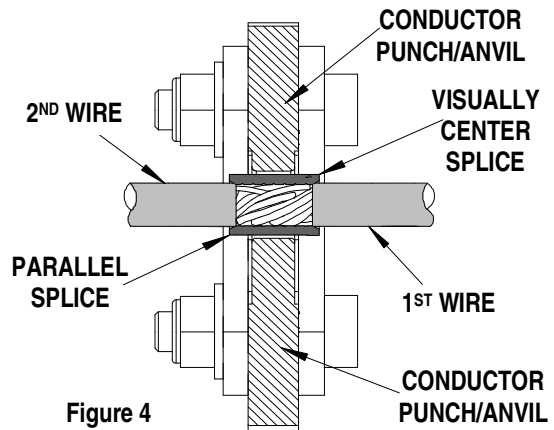

Figure 4
6. When crimping parallel splices, insert the 1st wire into one end of splice then insert the 2nd wire into the opposite end of the parallel splice. This procedure will crimp both wires at the same time. Make sure the wires are fully seated into the parallel splice. Position the splice and the wires in proper nest with conductor crimp on the conductor barrel of the splice. The splice should be approximately centered inside the tooling nests. See Figure 4. Cycle the tool.